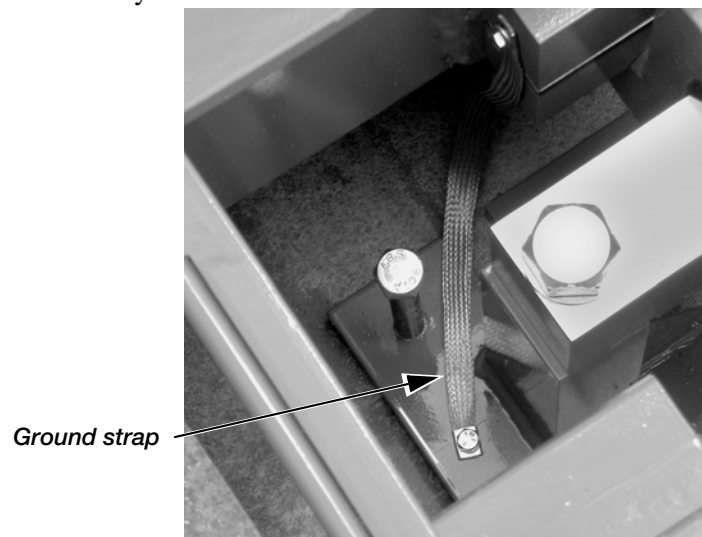

Figure 4-11. Ground Strap
10. Insert a bolt through the wire terminal on the loose end and thread the bolt into the hole on the baseplate. Tighten the bolt securely with a wrench (see Figure 4-11 14).